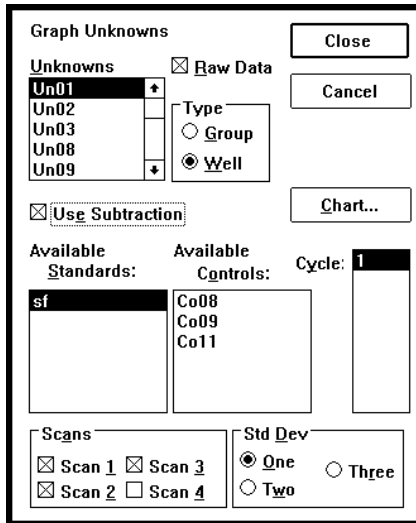

Figure 3-14 Graph Unknowns Dialog Box
1. Select **Unknowns** from the Graph menu (Alt, G, U). The Graph Unknowns dialog box appears (Figure 3-14).